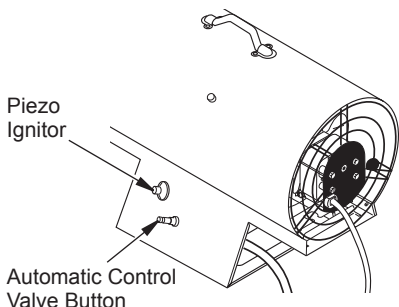

Figure 5 - Automatic Control Valve Button and Piezo Ignitor
6. Push in and hold automatic control valve button (see Figure 5). Push piezo ignitor button (see Figure 5). Keep pushing ignitor button until the burner lights. When burner lights, keep automatic control valve button pushed in. Release button after 30 seconds. This activates the automatic control system.